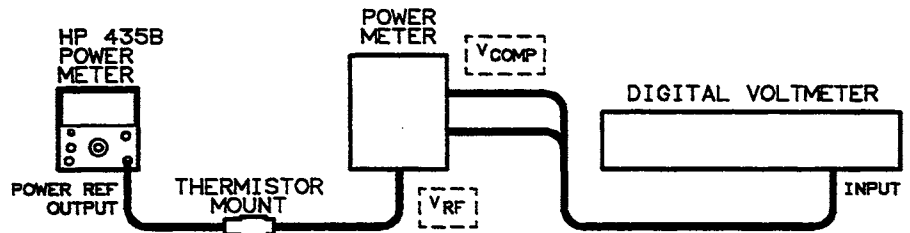

Figure 5-1. Power Reference Oscillator Level Adjustment Setup
2. Round off the DVM indication to two decimal places and record this value as the internal bridge resistance (R) of the HP 432A (approximately 200 ohms).
3. Connect the HP 432A to the HP 435B Power Meter as shown in Figure 5-1.